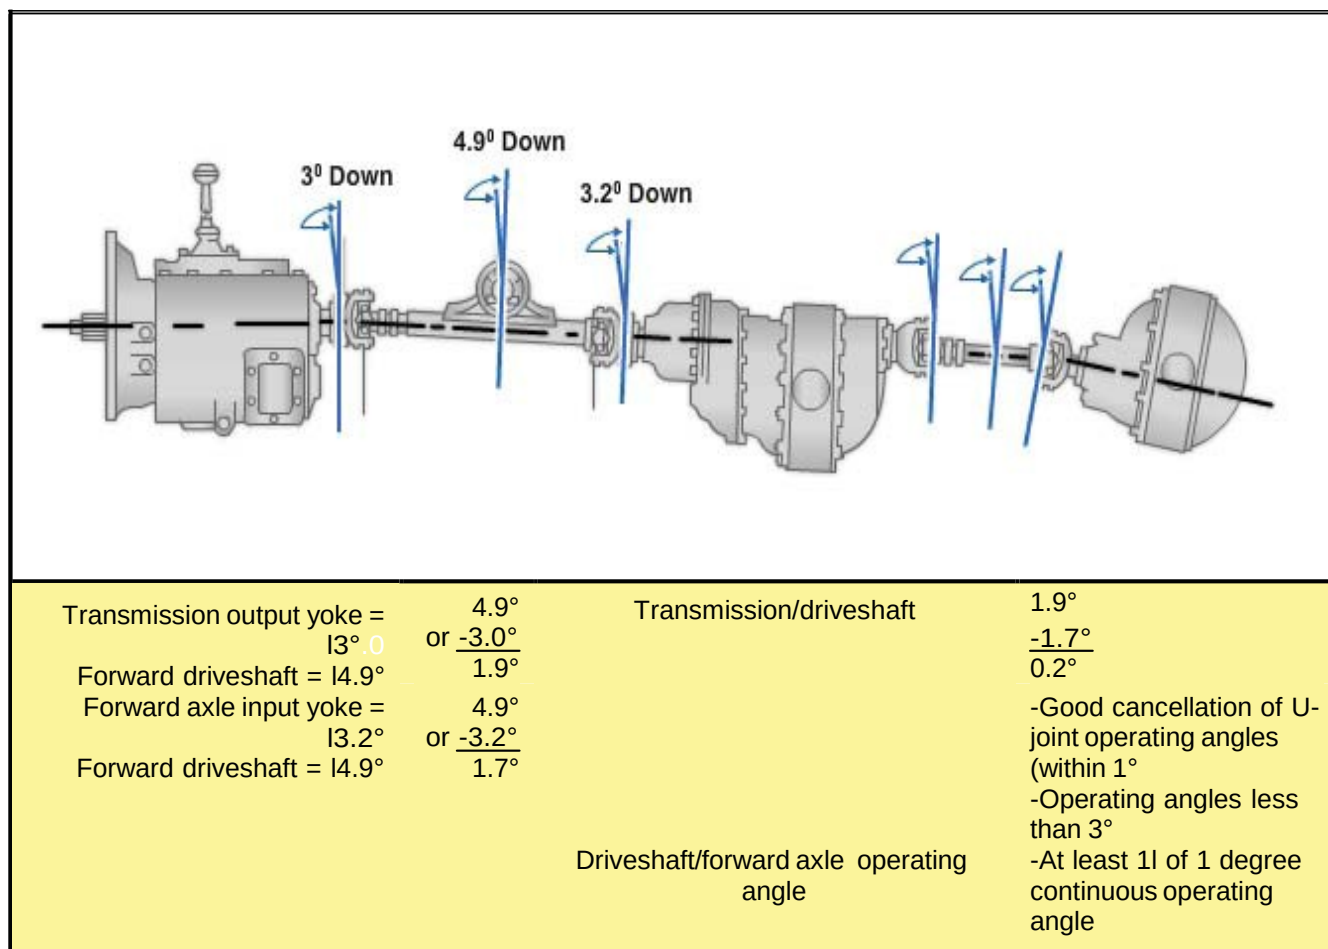

Figure 8-58 - Method for calculating the driveshaft operating angles between the transmission and axle differential carriers.
7. In tandem drive arrangements, measure the output yoke angle of the forward drive axle, the angle of the tandem driveshaft that connects the forward rear drive axle carriers, and the input yoke angle of the rear drive axle carrier. When you have measured all of the angles, record the data onto a drawing similar to that shown in *Figure 8-58*. Up to this point, you have not recorded any U-joint operating angles in the drawing, just the inclination of the components.
- To determine U-joint operating angles, simply find the difference in inclination of the components. When the inclination occurs in the same direction on two connected components, subtract the smaller number from the larger to find the U-joint operating angle. When the inclination occurs in the opposite direction on two connected components, add the measurements to find the U-joint operating angle. Now compare the U-joint operating angles on the drawing to the guidelines provided previously in *Figure 8-58*.